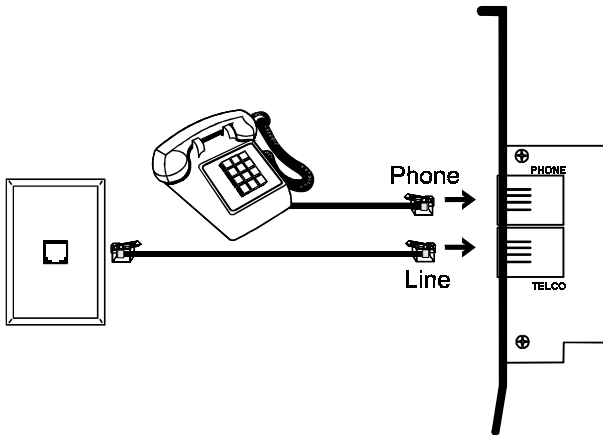
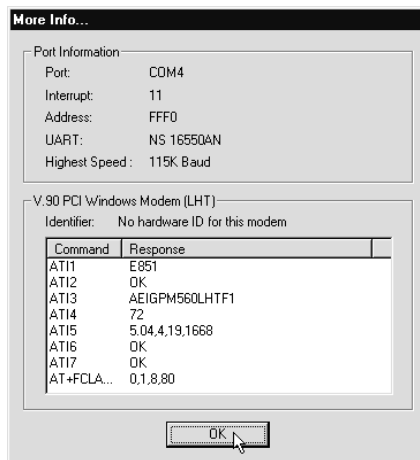

Fig.7: Connecting Devices
Figure 8: More Info Panel
The position and colors of the expansion slots in your computer may differ from the illustrations shown in **Fig. 7** or **Fig. 8**, but the installation procedure should be the same.
8. Connect the telephone line cable to the *Line (Telco)* jack as shown in **Fig.7**.